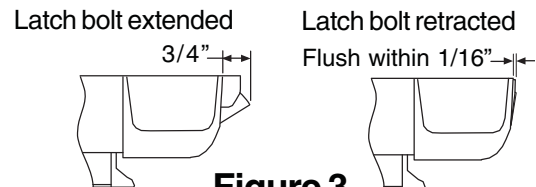

Figure 3
2. Depress pushbar and make sure latch bolt retracts and extends fully (see Figure 3).
4. Check latch bolt(s) for full retraction (must clear strike (see Figure 3).
5. Release solenoid and check latch bolt extension (see Figure 3).